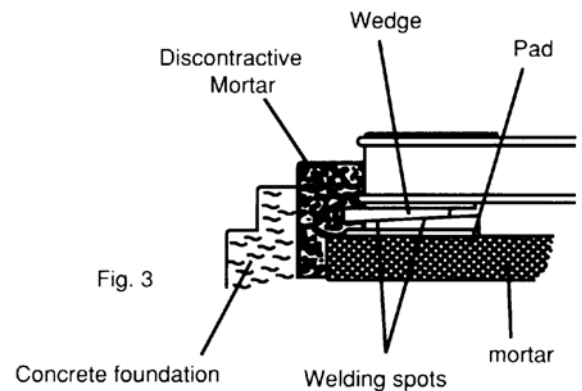

Fig. 3
- (d) Sole plate or common bed should be embedded in concrete foundation as illustrated in Fig. 3. Stiff pads should also be installed beneath the wedges, which are welded together at various spots about 400-500mm (15.75-19.70 inches) apart. This will enable the foundation to evenly carry the weight of the whole motor.